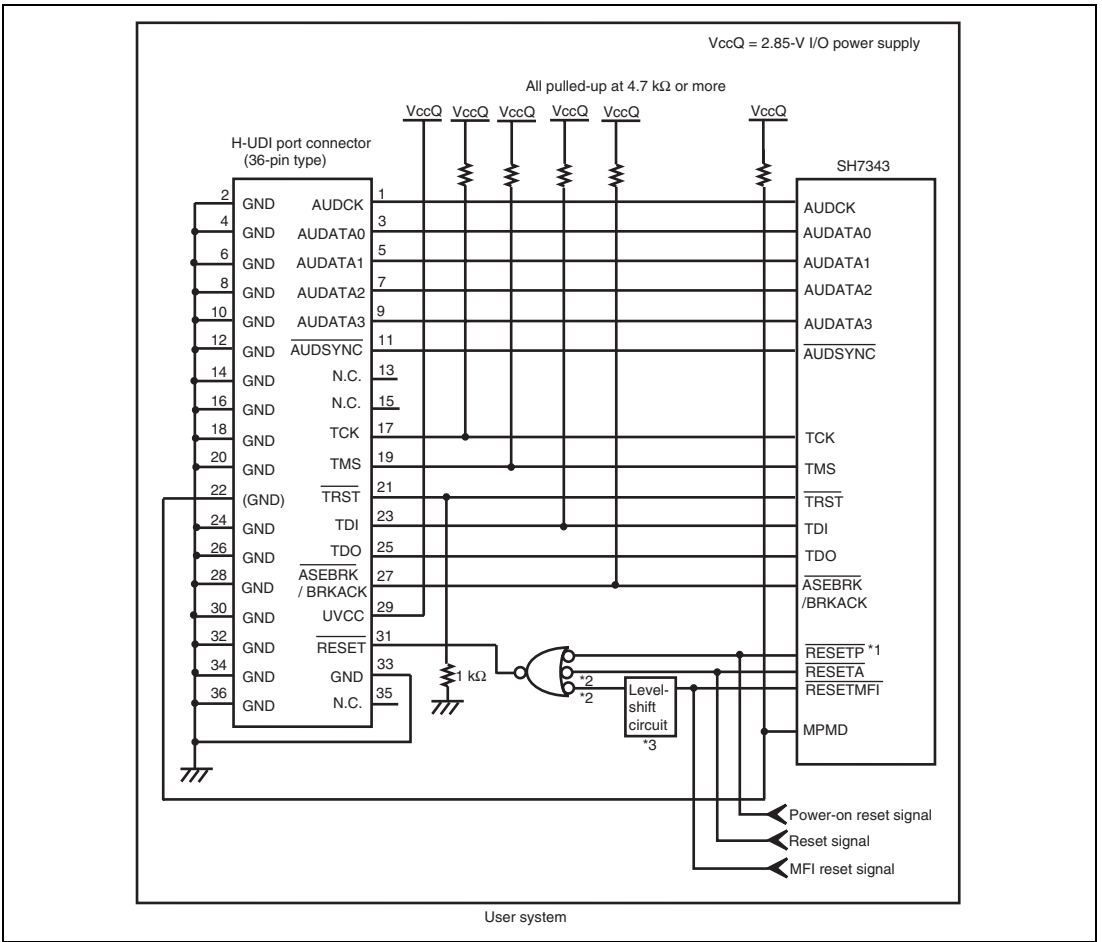

Figure 1.2 Recommended Circuit for Connection between the H-UDI Port Connector and MPU when the Emulator is in Use (36-Pin Type)
5. Connect /RESETP, /RESETA, and /RESETMFI to the user system if required, as shown in figure 1.2.
Figure 1.2 shows a recommended circuit for connection between the H-UDI and AUD port connectors (36 pins) and the MPU when the emulator is in use.
- (1) When the emulator is used: $MPMD = 0$
- (2) When the emulator is not used: $MPMD = 1$Figure 1.2 shows an examples of circuits that allow the MPMD pin to be GND (0) whenever the emulator is connected by using the user system interface cable.
7. The resistance values shown in figure 1.2 are reference.
3. When VccQ_MFI is used at 1.8 V, the level-shift circuit in figure 1.2 is required to adjust the signal levels.